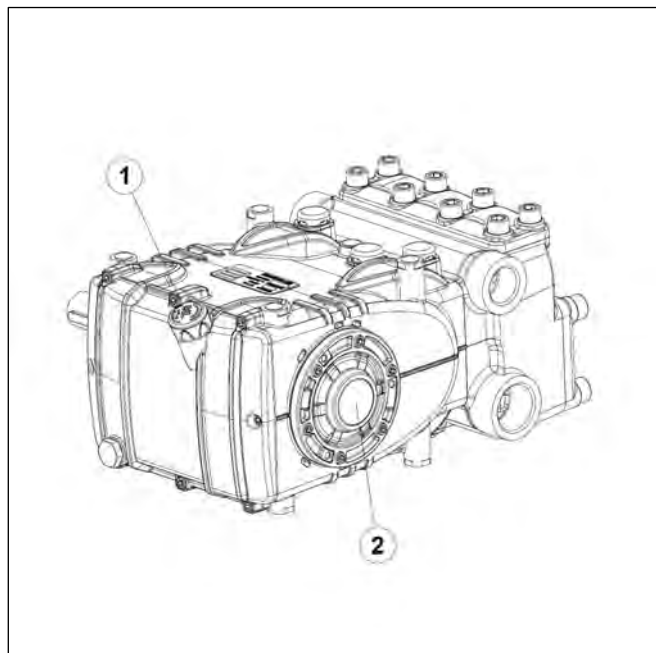

Fig.14
5. Oil in the pump casing is at level, verified with a dipstick (position 1 fig. 14). and exceptionally with a level indicator (position 2 fig. 14).